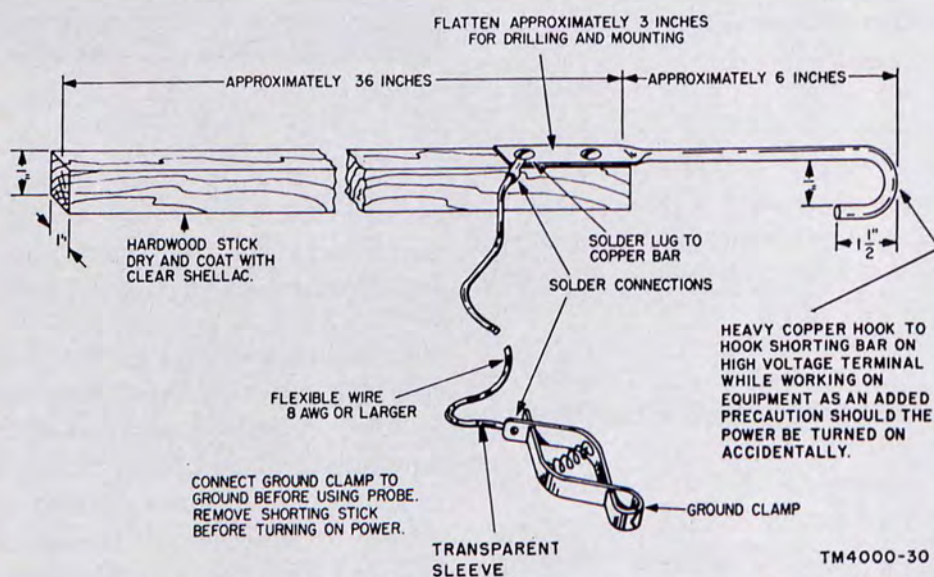

Figure 8. Construction of a shorting stick.
b. A good shorting stick can be made as suggested in figure 8. Be sure that the wood is thoroughly dry. For the ground lead, use about 2 feet of heavy bare flexible wire with a piece of plastic tubing slipped over it. Bare wire and clear tubing are used so that a break can be seen and repaired. An unseen break can lead to injury or death, because a shorting stick with a defective ground lead will fail to discharge the capacitors. In addition, charged capacitors will appear to be discharged because of the lack of sparking when they are grounded. Use a heavy solder lug and be sure the joint where the wire connects to the lug is a good solder joint. When the stick is used, first connect the clip to the chassis; then touch the hook to the high-voltage point to be discharged. The stick indicated in figure 8 is for large transmitters; use the dimensions as a guide for constructing smaller sticks.